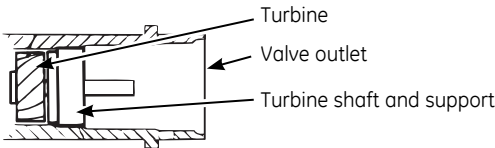

Figure 8
2. Make sure the turbine assembly spins freely in the "out" port of the valve, see Figure 8.